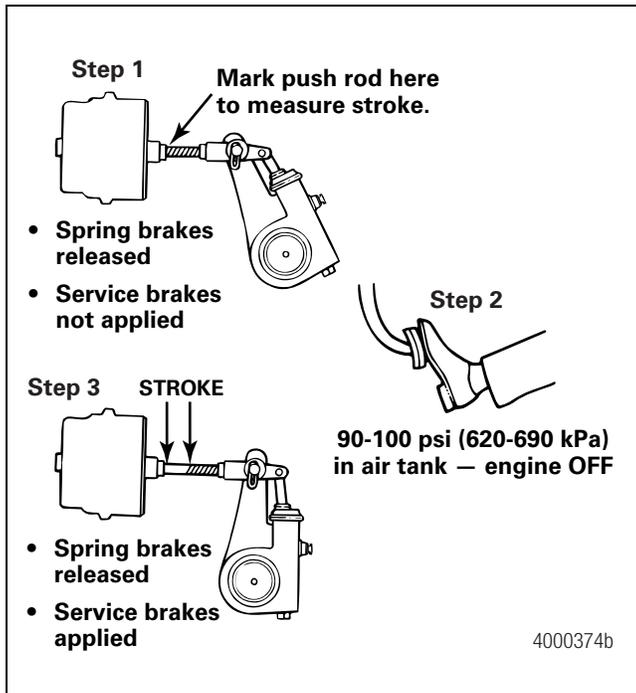

Figure 7.12
- With the brakes released, mark the push rod where it exits the chamber. Measure and record the distance. Have another person apply and hold the brakes on full application. Figure 7.12.
- Measure the push rod travel or adjusted chamber stroke from where the push rod exits the brake chamber to your mark on the push rod. Measure and record the distance. Figure 7.12.